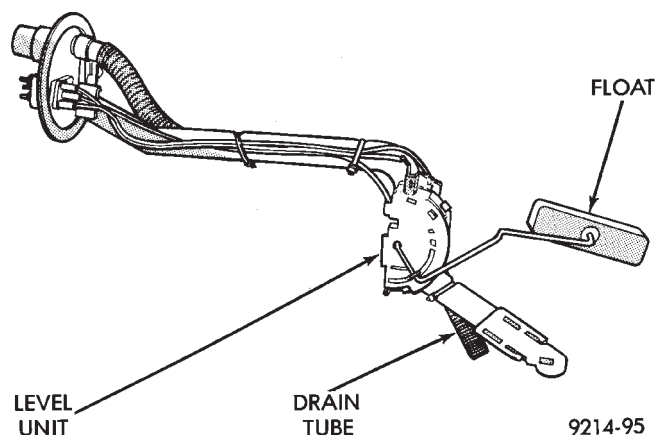

Fig. 4 Fuel Tank Sending Unit
- (1) Using a hammer and brass drift punch, carefully tap lock ring counterclockwise to release sending unit.
- (2) Lift level unit and O-ring away from tank (Fig. 4).